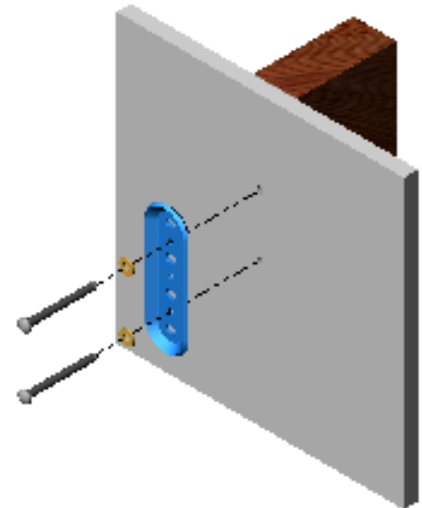

Figure 1. Secure Wall Bracket
3. Using two Phillips head #10 X 2 1/2" wood screws and two #10 washers (supplied), secure the wall bracket (see Figure 1).